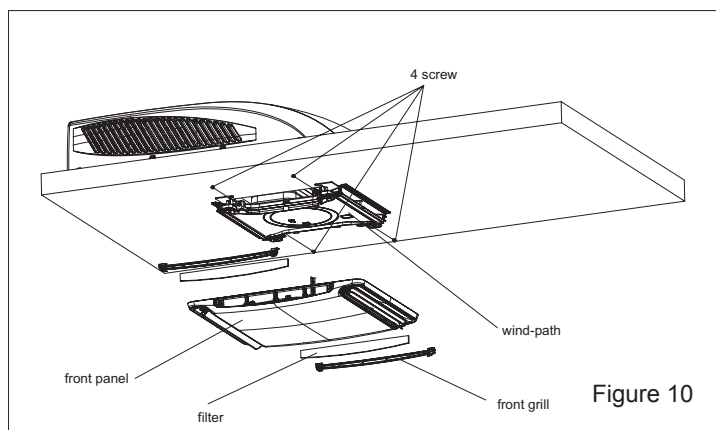

Figure 10
2. Secure the ceiling grille to the ceiling assembly wind-path with 4 screws. (see Figure 10).